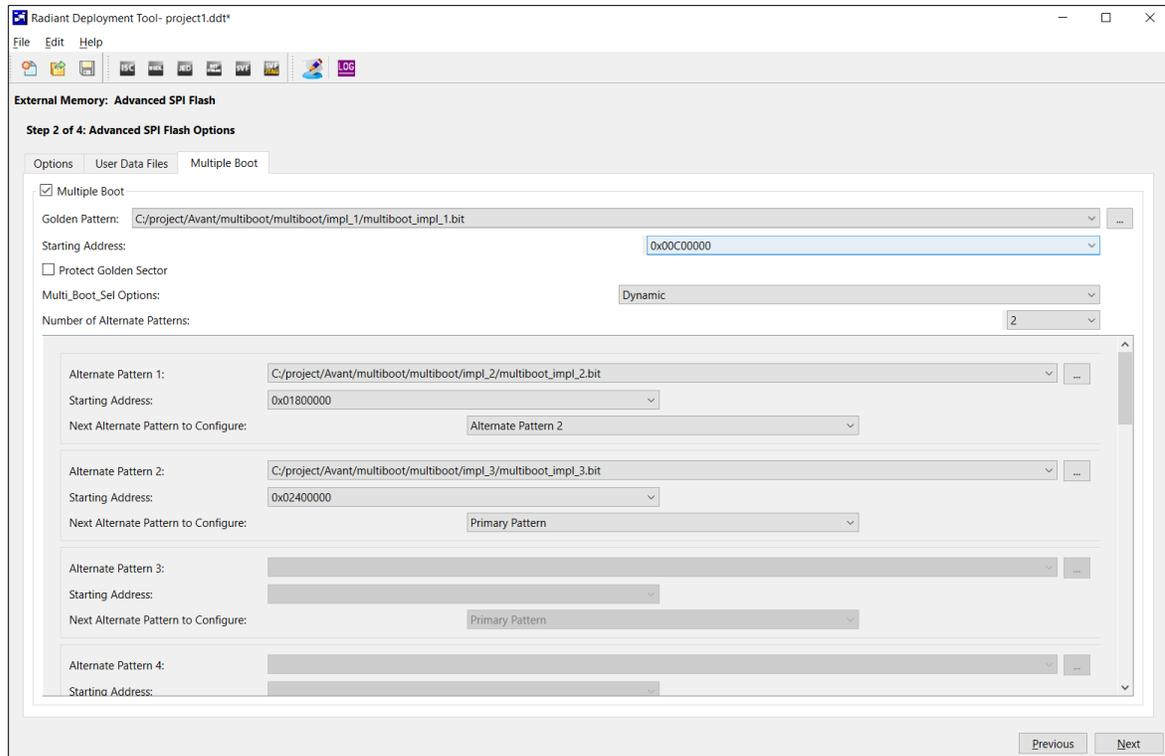

Figure 6.8. Multiple Boot Tab of Step 2 of 4: Advanced SPI Flash Option
- c. In Step 2 of 4: Advanced SPI Flash Option, under the **Multiple Boot** tab, select the following options (Figure 6.8):